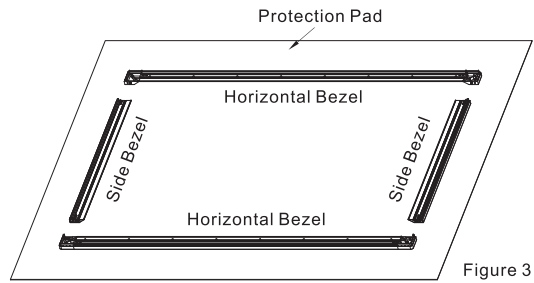

Figure 3
1. Create a clean-flat work area for assembly using the attached Protection Pad. Align Horizontal Bezel and Side Bezel to be a Rectangle. (see Figure 3)